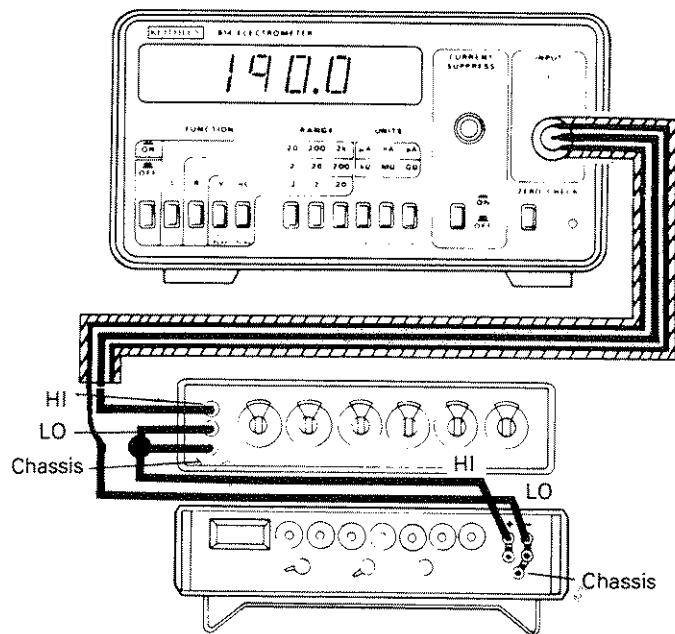

Figure 4-2. Current Verification
1. Select Current (I), 200 μ A range and depress ZERO CHECK
2. Configure the DC calibrator (Item A), decade resistor (Item E) and the Model 614 as shown in Figure 4-2.